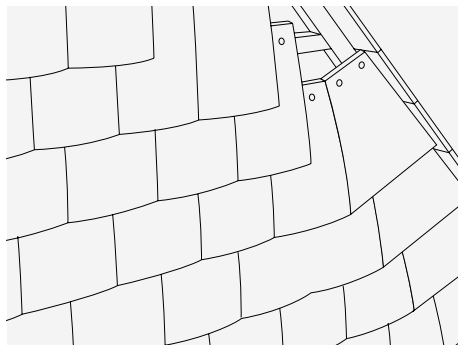

Fig. 21 – Cut tile-and-a-half tile
- 2 Cut tile-and-a-half tiles to angle of rake for each vertical course, keeping cut edge parallel to and below rake (Fig. 21).